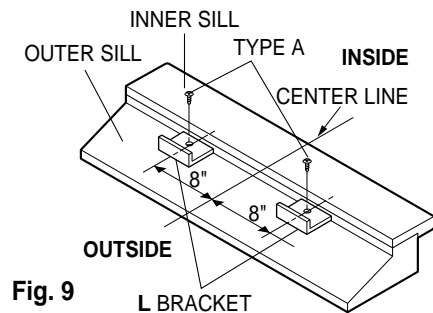

Fig. 9
- b. The bracket helps to hold the unit securely in place. Be sure to place bracket edge flush against back of inner sill. See Fig. 9.
- a. Carefully lift the air conditioner and slide it into the open window. Make sure the bottom guide of the air conditioner drops into the notches of the L bracket. See Fig. 9.